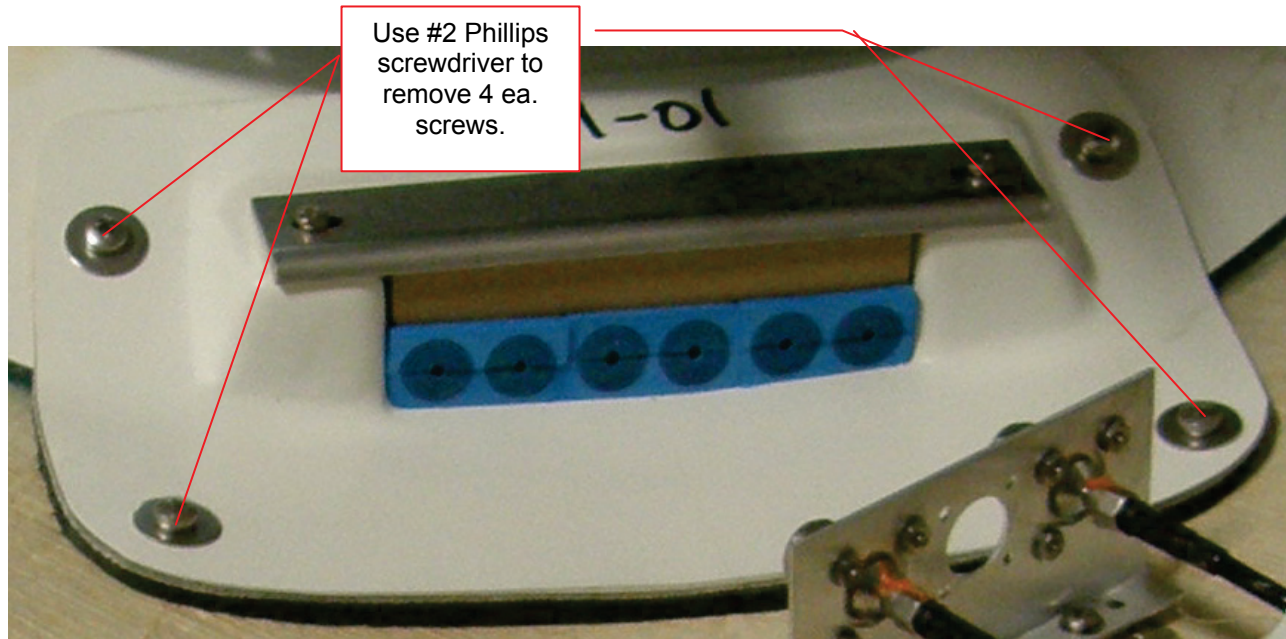

Fig. 1 – Cable pass-thru assembly
* N/A for 193 cm (76-inch) nominal size radomes. Refer to Fig 1, then use #2 Phillips screwdriver to remove 4 ea. attachment screws.